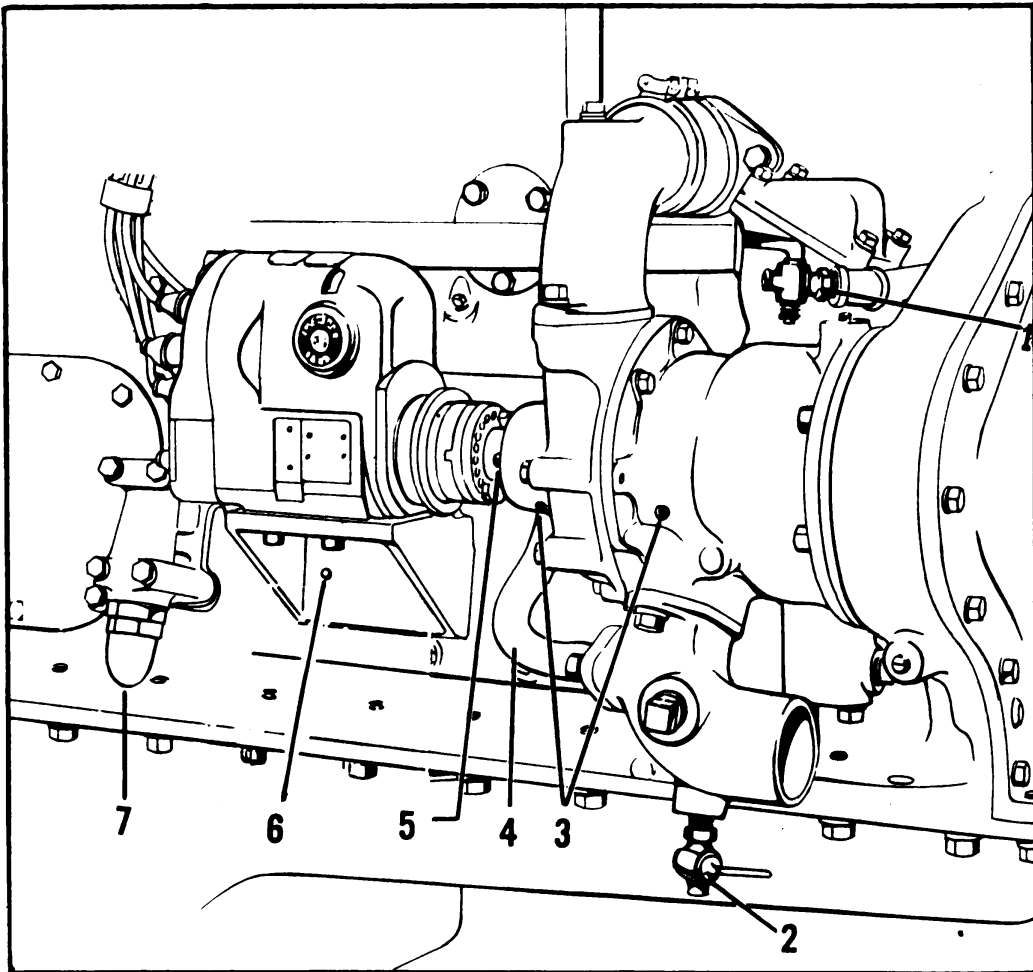
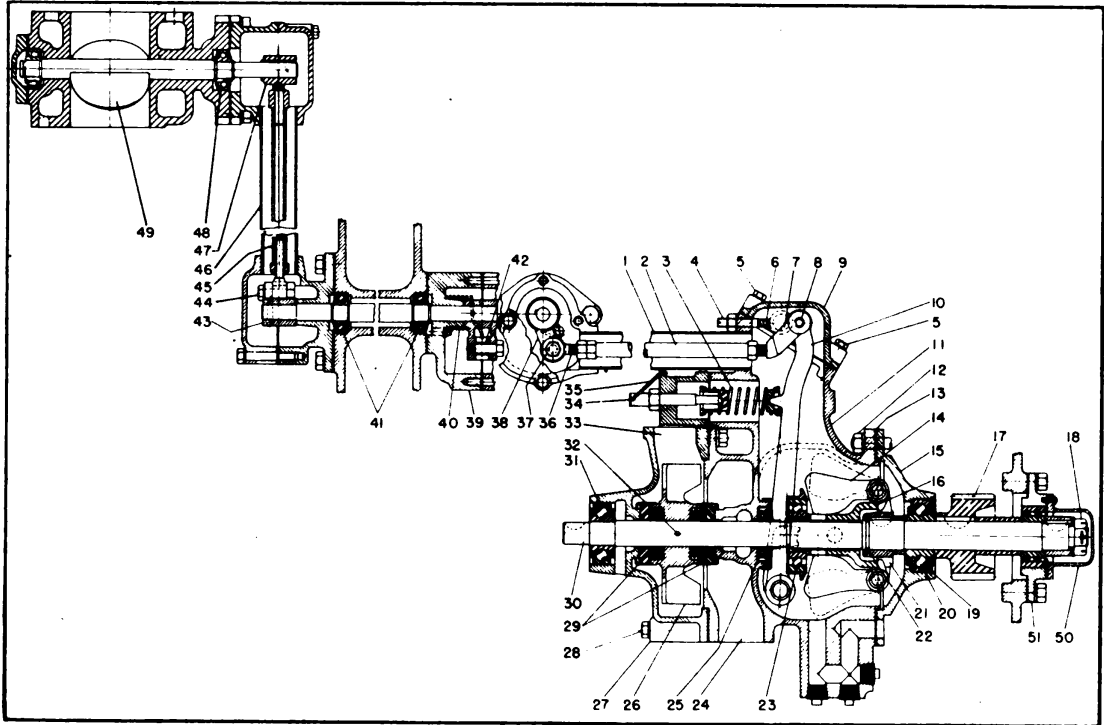

FIGURE 15 - GOVERNOR, WATER PUMP AND MAGNETO CLOSE-UP
FIGURE 16 - GOVERNOR AND WATER PUMP ASSEMBLY
4. With the carburetor removed, it is easy to remove the cover from the bell crank housing and to remove the clevis pin, 44, Figure 16. Then disconnect the vacuum line from the intake manifold to the vacuum gauge and remove the intake manifold and butterfly valve housing.
311 - WATER PUMP - The water pump is built in combination with the governor as Figures 15 and 16 indicate. It requires no lubrication attention, but after long service the spring loaded seals may need replacing. The holes, 3, Figure 15, are tell tales which will drip water if either of the seals, 29, Figure 16, is leaking. To renew the seals, first remove the upper and lower water connections from the pump housing, the water
by-pass connection from the top water manifold to the intake elbow of the pump, remove the magneto with its bracket, dismount the magneto coupling 5, Figure 45, and remove the key from the pump shaft. Now refer to Figure 16. Remove the pump case cap screws, 28, which will permit the pump housing to be slipped off the end of the pump shaft. Use care in this operation to avoid damage to the rear ball bearing, 31. This will expose the pump impeller, 26, and both seals, 29, each of which should be removed even though but one is leaking. Now withdraw the rear seal and remove all rust from the shaft with fine emery cloth and apply penetrating oil copiously to the shaft at both ends to free the impeller so that it may be pulled. Now drive out the No. 5 taper pin, 32, which holds the impeller to the shaft and with a good gear puller withdraw the impeller itself as well as the front seal assembly. Clean the shaft and the seal seat, install the new seal unit, and re-assemble the pump.
314 - GOVERNOR AND PUMP EXCHANGE SERVICE - As shown in Figure 16, the weight and lever actuating mechanism of the governor is built in combination with the water pump and the entire pump-governor assembly may be removed as a unit for any major repair or adjustment. To facilitate field repairs when shop equipment is scarce,
316 - GOVERNOR OPERATION - The movement of the butterfly, 49, Figure 16, which controls the engine speed is effected by the vertical reach rod, 45, through the system of bell cranks, 47, and 43, a ball bearing cross shaft, 41, which passes through the cylinder block, and is fitted on the other side of the engine with the bell crank, 38. This bell crank is connected by the adjustable reach rod, 2, to the main operating lever, 10, which bears against the ball thrust, 23, on the end of the shifter sleeve, 16. This shifter sleeve moves freely on the governor shaft, 30, and in the position shown, the engine is at rest with the throttle wide open and the weights, 14, collapsed. They are held thus by the spring, 3, which always pushes against the lever, 10. When the engine starts, the weights, which are pivoted to the carrier, begin to revolve with the shaft, and as the speed increases, centrifugal force makes the weights fly out and away from the shaft until they reach the limit of travel as shown in the dotted outline. At the base of the weight where the line from 16 contacts the shifter sleeve is the trigger shaped lug which presses the shifter sleeve to the left, as the weights fly outward. When the weights fly out, the operating lever, 10, is moved against the spring, 3, through the ball thrust bearing, 23, on the shifter sleeve, and this motion is transmitted to the butterfly throttle to close it. The governed speed is controlled